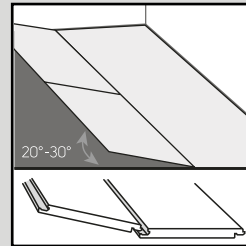
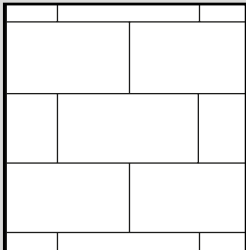
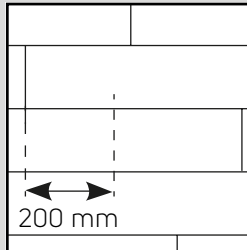

Fig. 3
Fig. 3a
Fig. 3b
Such that four corners never meet. Refer to installation Fig.3a / 3b.
- Start the second row by clicking the tongue into the groove holding the plank at an angle (approximately  $30^\circ$ ), then push the plank/tile firmly into the groove of the first row. Install the next plank/tile by clicking the tongue and groove together along the short edge. Ease the tongue and groove together on the long side by angling the planks/tiles together (Fig. 3). Tiles and planks should be installed 'off-set' such that four corners never meet (Fig. 3a and Fig. 3b).